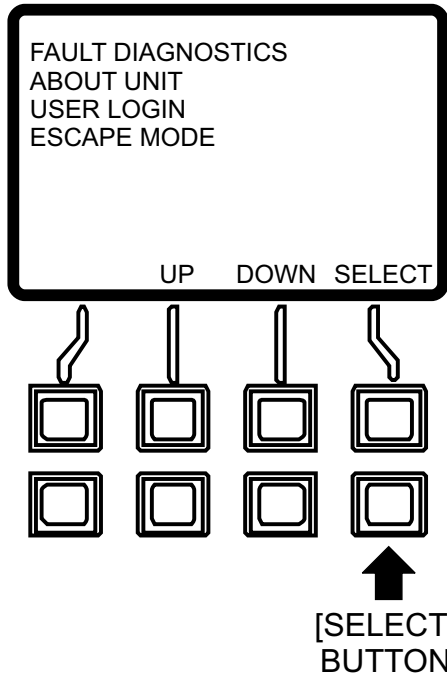

Figure 73. Main Menu (Select Button)
- Press the **[SELECT]** button (Figure 73) to enter the "Escape Mode" menu.